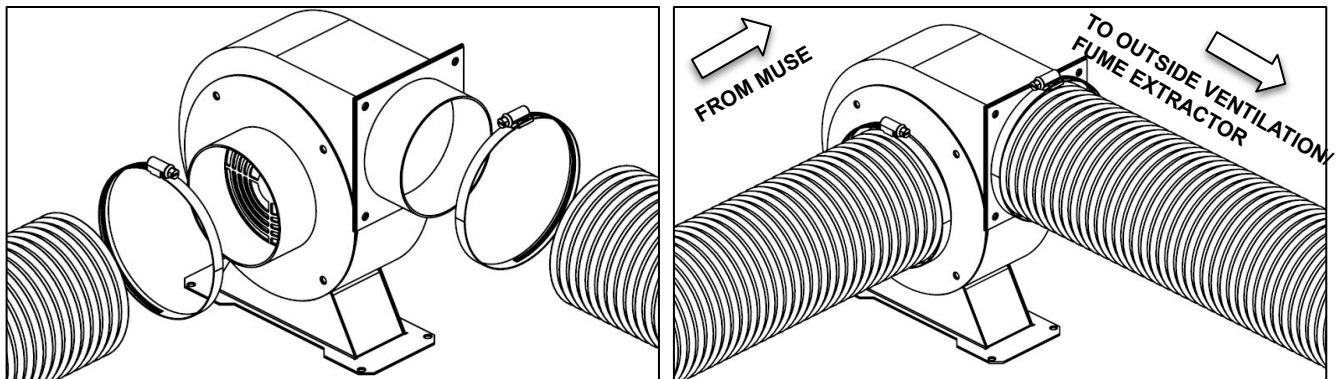

Fig. 5
3. **Attach Exhaust Fan:** Secure the free end of the ducting to the exhaust fan. Repeat the ducting and clamping process in the other side of the exhaust fan and plug in the fan into the bottom power plug marked "exhaust" on the back of your Muse 3D machine. (see Fig. 5).